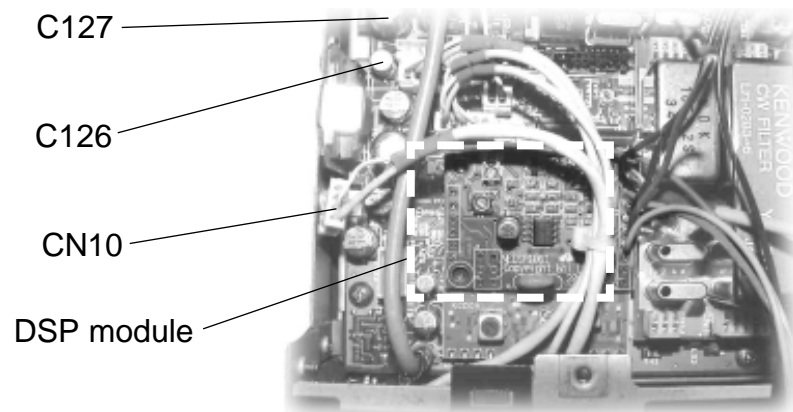

Figure 1. Location of C126, C127, CN10 and DSP module
4. Fit the DSP board as shown in figure 1.
6. Locate the pc board trace coming from pin 8 of the audio amp chip (IC7) This track is between C127 elect cap and C126 elect surface mount cap. There is a + printed on top of this track for C126 (see figure 1).